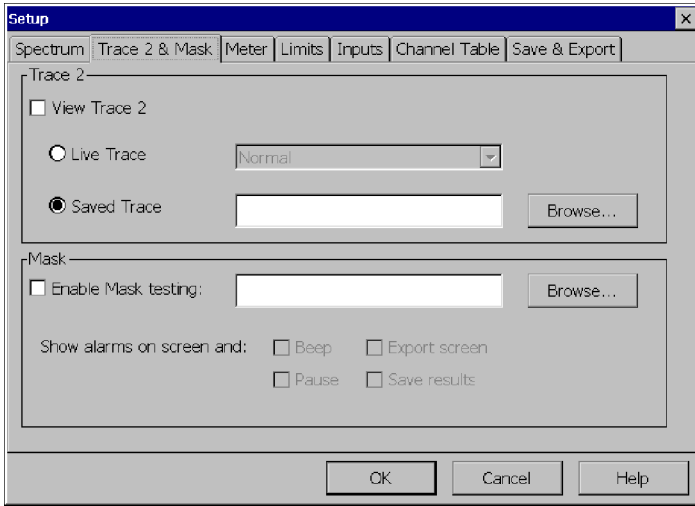

Figure 3-6: Defining Trace 2
1. Select **View>Define Trace 2...** The Settings window appears with the Trace 2 & Mask tab selected. See Figure 3-6.